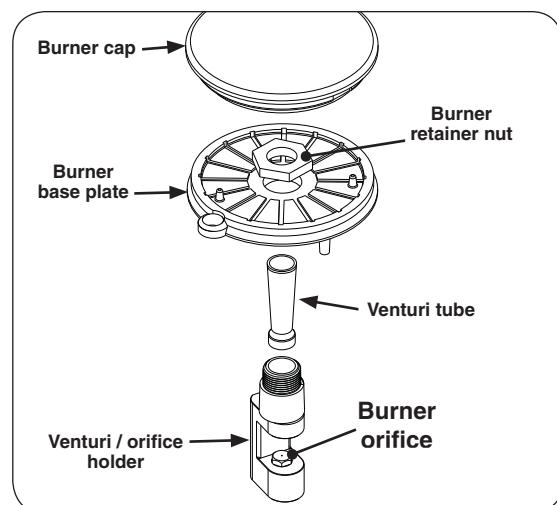

Fig. 24-1 Burner details
2. Remove the retainer nut using an adjustable wrench (see Fig. 24-1).
3. Remove the burner base plate and the venturi tube (see Fig. 24-1).
4. Carefully lift out the entire sideburner body from the enclosure and carefully set it on its side to access the venturi/orifice holder. See Fig. 24-1.